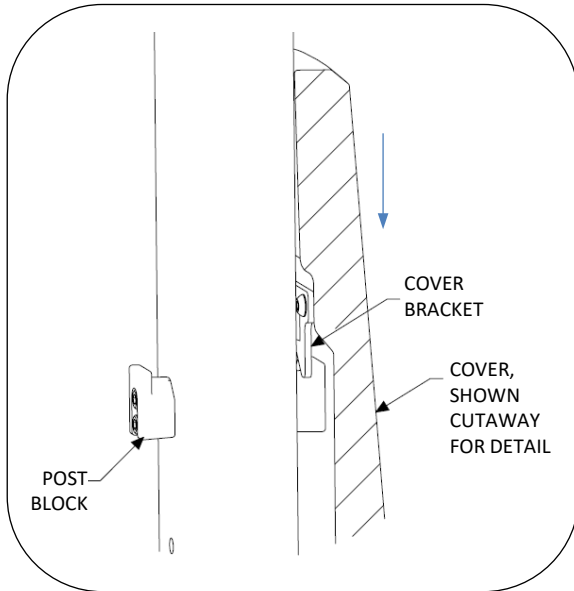

FIG. 6 – INSTALL COVER
14. For metal or Meldstone post covers, install one cover half by sliding it down over the block on the post. Repeat for the other half, see Fig. 6.